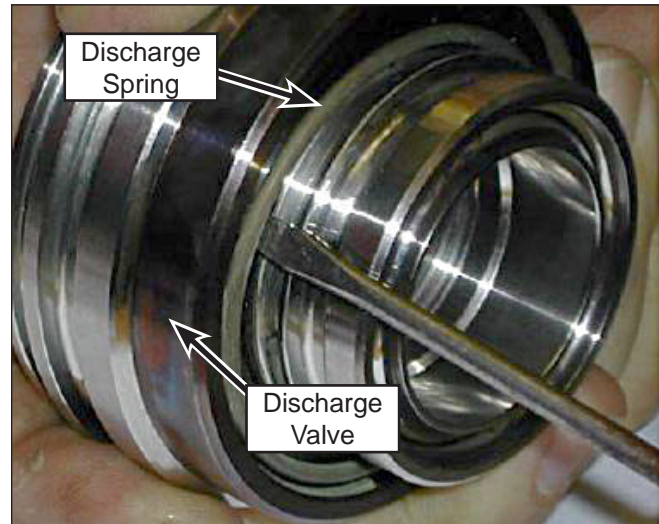

Figure 76: Discharge Spring and Valve Removal.
6. Insert a small screwdriver under the discharge spring (Figure 76). Carefully rotate the screwdriver until the spring releases from the groove.